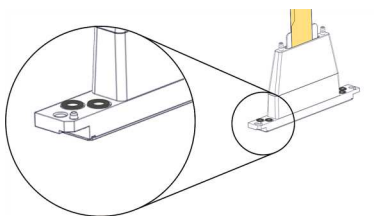

Figure 4-110 O-ring seals on the print head
17. Place four (4) O-ring seals in the replacement head (see Figure 4-110 on the previous page).